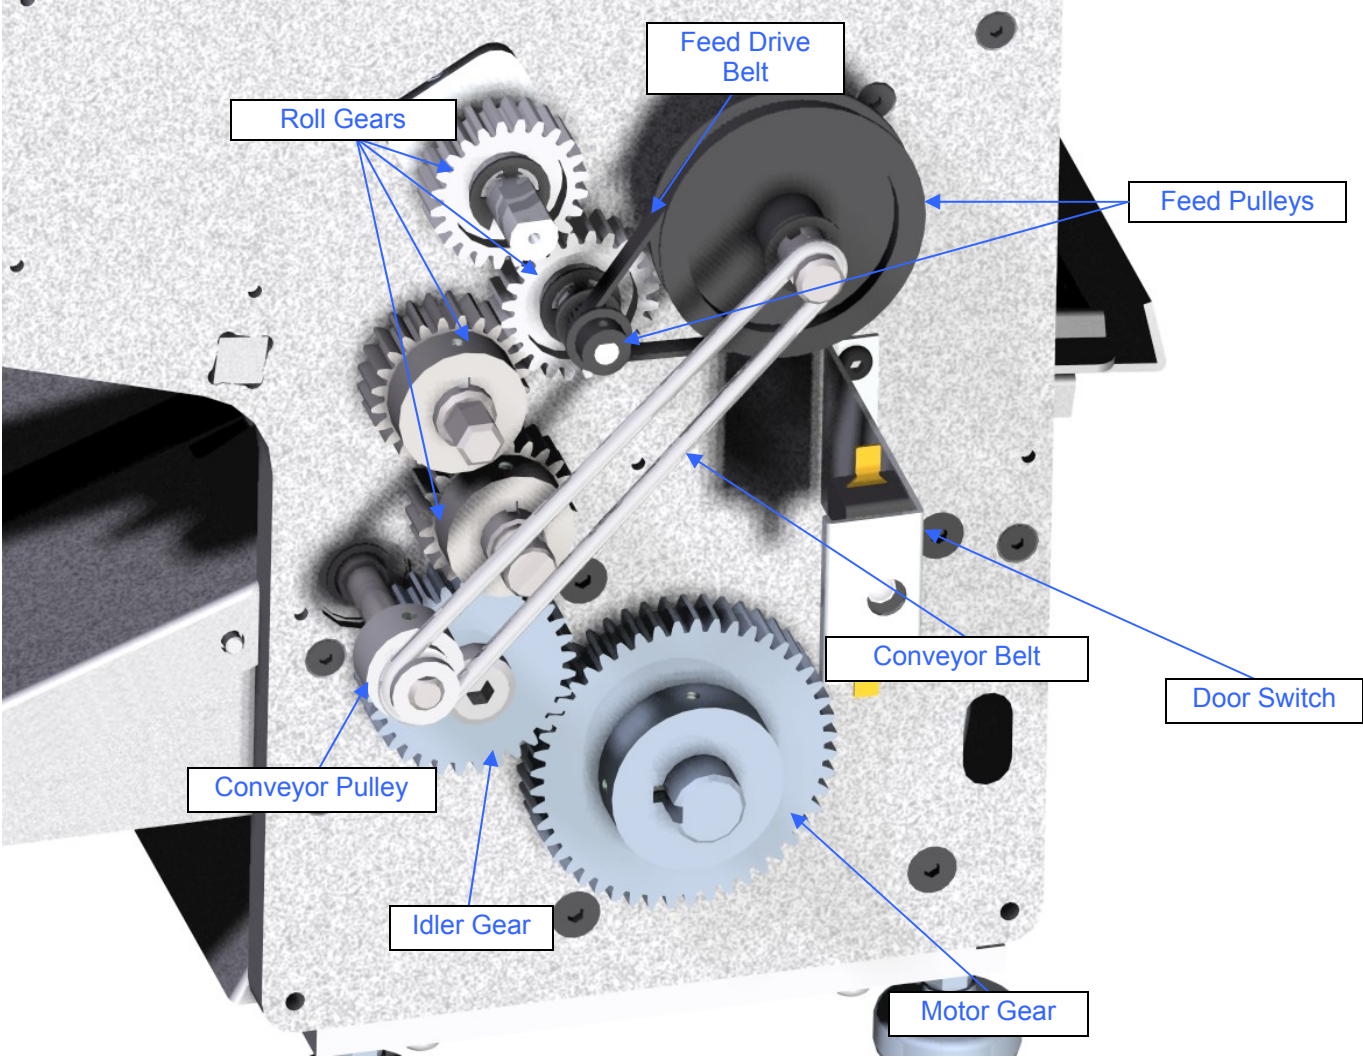

Figure 6: Drive Train
5. Remove the **Conveyor Drive O-Ring** [Figure 6].
6. Remove the **Feed Drive Belt** [Figure 6].
7. Remove the **Plastic Roll Gears** [Figure 6].
8. Remove the **Roll Gears** [Figure 6].
9. Remove the **Motor Gear** [Figure 6].
10. Remove the **Idler Gear** by removing the shoulder-bolt on which it is mounted [Figure 6].
11. Remove the **Feed Drive Pulleys** [Figure 6]
12. Remove the **Conveyor Drive Pulley** [Figure 6].
13. Disconnect both leads from the **Door Switch** [Figure 6].
1. Remove the **Conveyor Drive O-Ring** [Figure 6].
2. Remove the **Conveyor Pulley** [Figure 6].
3. Remove the **Feed Drive Belt**, and **Pulleys** [Figure 6].
4. Remove the **Plastic Roll Gears** [Figure 6].
5. Remove the **Roll Gears** [Figure 6].
6. Remove the **Motor Gear** [Figure 6].
7. Remove the **Idler Gear** by removing the shoulder-bolt on which it is mounted [Figure 6].
8. Remove the **Feed Pulley** [Figure 6]